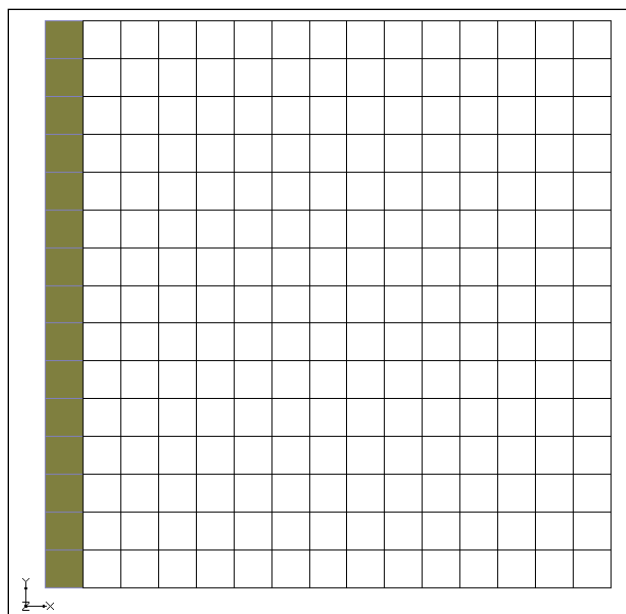

Figure 3 Highlight the leftmost column
2. Drag a box around all of the cells in the leftmost column of the grid to highlight them (Figure 3).